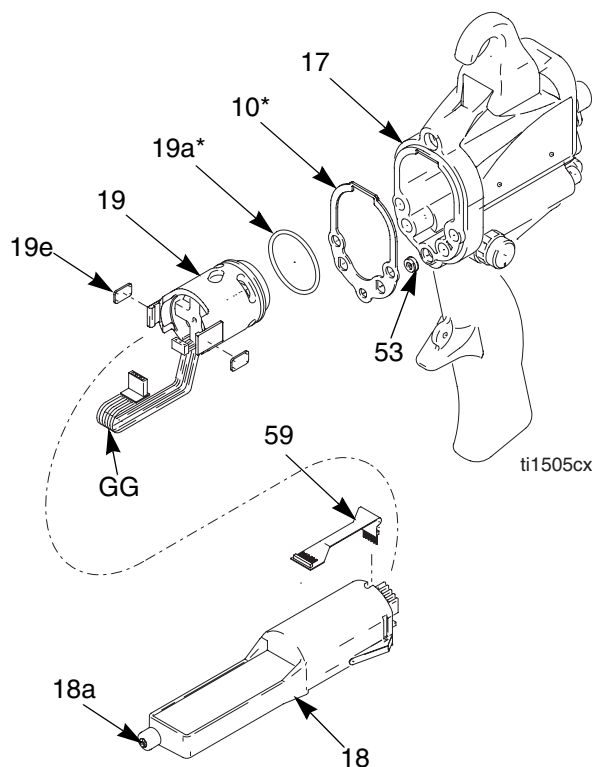

FIG. 18. Power Supply
3. Grasp the power supply (18) with your hand. With a gentle side to side motion, free the power supply/alternator assembly from the gun handle (17), then carefully pull it straight out. *On Smart Model only*, disconnect the flexible circuit (59) from the socket at the top of the handle (17). See FIG. 18.
4. Disconnect the 3-wire connector (GG) from the power supply. Slide the alternator up and off the power supply. Inspect the power supply and alternator for damage. *On Smart Model only*, disconnect the 6-pin flexible circuit (59) from the power supply.
6. *On Smart Model only*, connect the 6-pin flexible circuit (59) to the power supply.
7. Connect the 3-wire connector (GG). Slide the alternator (19) down onto the power supply (18).
9. Lubricate the power supply seal (18a) with dielectric grease (40).
10. Insert the power supply/alternator assembly in the gun handle (17). Make sure the ground strips make contact with the handle. *On Smart Model only*, connect the flexible circuit (59) to the socket at the top of the handle. Push the 6-pin connector into the socket to ensure it is properly connected.
11. Install the barrel (16), page 31. Ensure the ground spring (53) is in place.